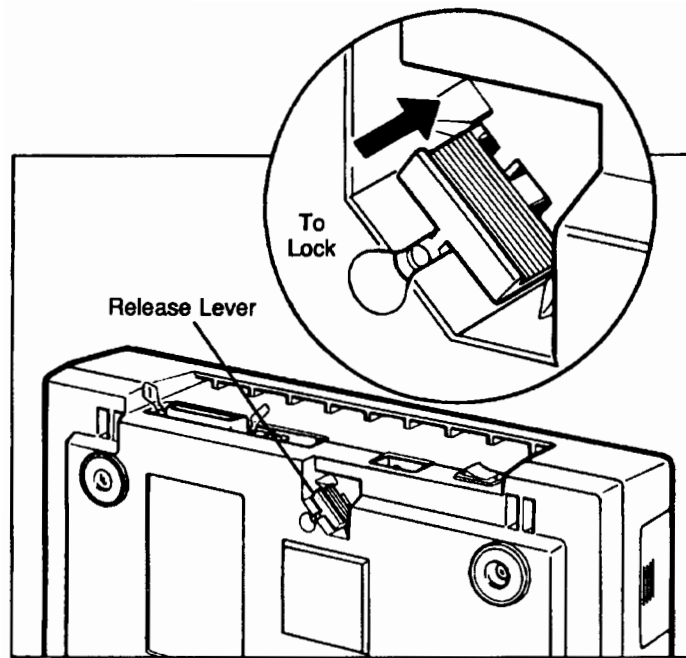

Figure 1-7. Relocking the ScanJet Plus Scanner
5. Relock the scanner by tilting the scanner on end and sliding the release lever toward the scanner until you feel it lock. See figure 1-7.